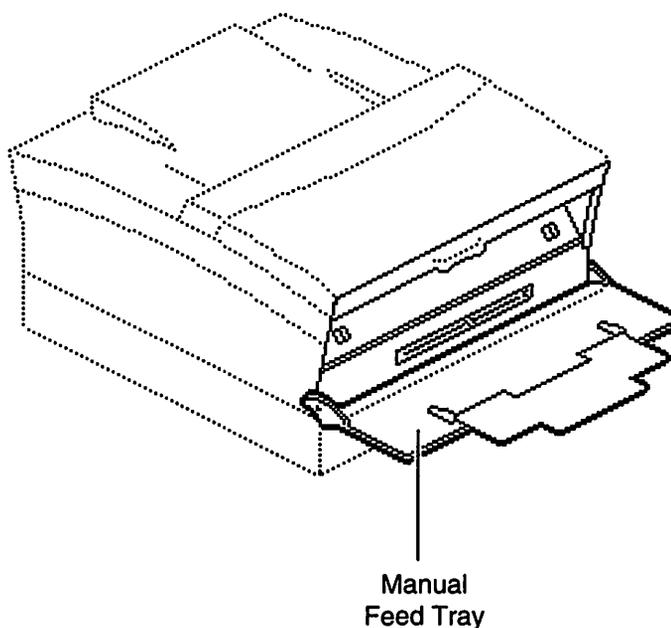

Figure 1-10
- The manual feed tray (see Figure 1-10) is used to feed paper into the printer during manual feed. Paper is loaded onto the tray one sheet at a time.